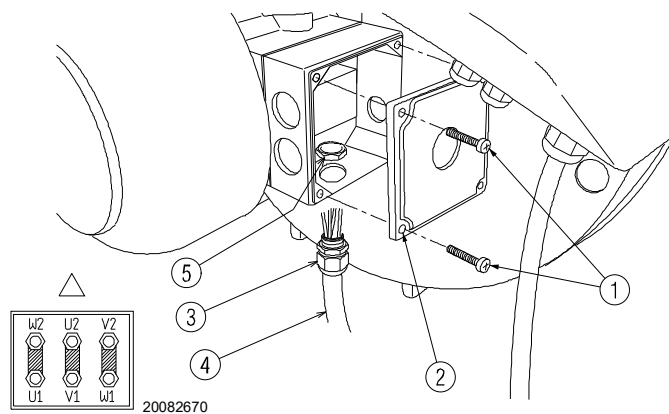

Fig. 21
- to access the motor casing, loosen the four screws 1)(Fig. 21) and remove the cover 2);
- install the cable 4) with its relative coupling on the motor casing, fixing it carefully in place with the ring nut 5)(Fig. 21).
- Make a final visual check, then close the motor casing by tightening the 4 screws 1)(Fig. 21).